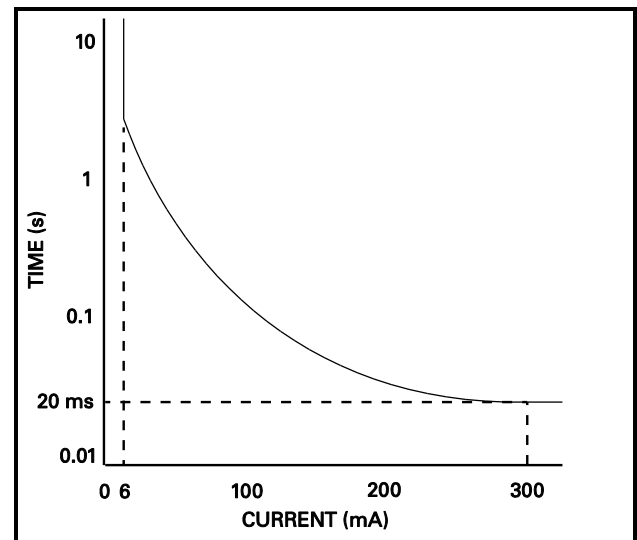
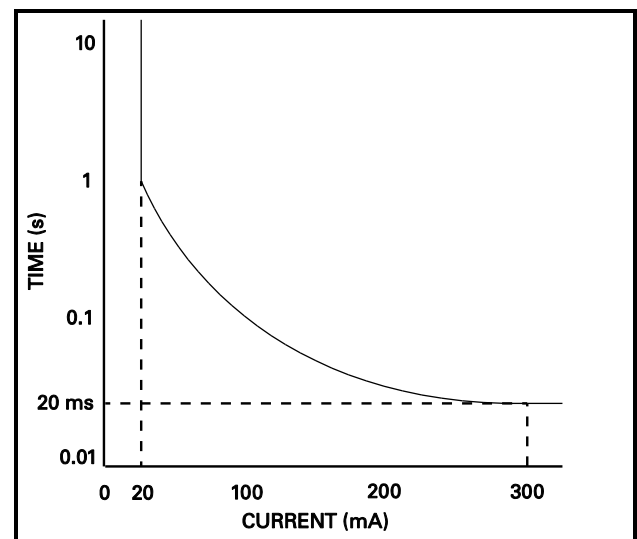

FIGURE 21. Class-A GFCI Curve.
FIGURE 22. Class-C and -D SPGFCI Curve.
Fig. 21 shows the Class-A GFCI maximum-trip-time-versus-current curve defined by UL 943 (with the above formula); UL 943 also defines a limit to the formula, with a minimum required trip time (or fastest trip speed) of 20 ms, which occurs at about 300 mA of ground-fault current (I) per the formula. Class C and D SPGFICs must operate within this same curve, except that their operating threshold is 15 to 20 mA (non-adjustable). See Fig. 22. The SB5000 EGFPDs described in this manual also operate within the Class-A formula, but have a 6- to 100-mA threshold setting range.